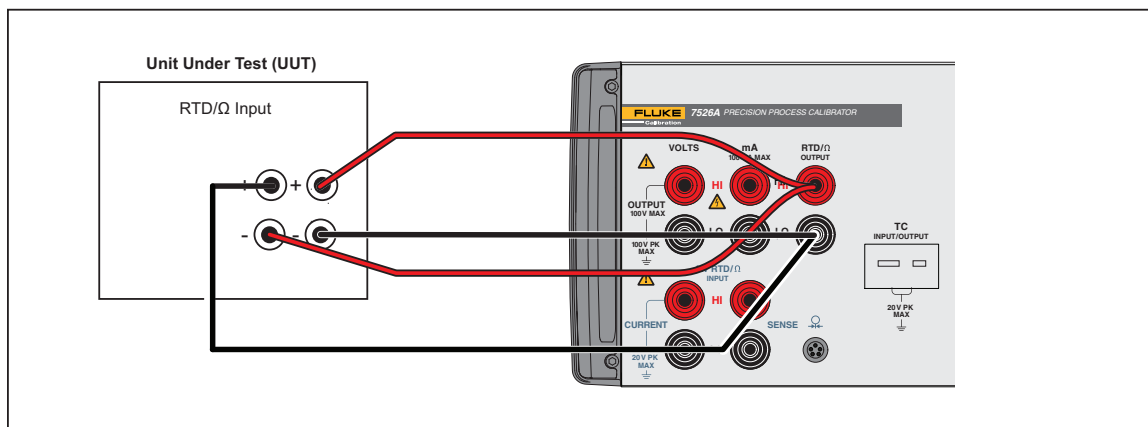

Figure 2-4. RTD/ Ω Output Connection
5. Connect the UUT to the RTD/ Ω output terminals of the Product as shown in Figure 2-4.